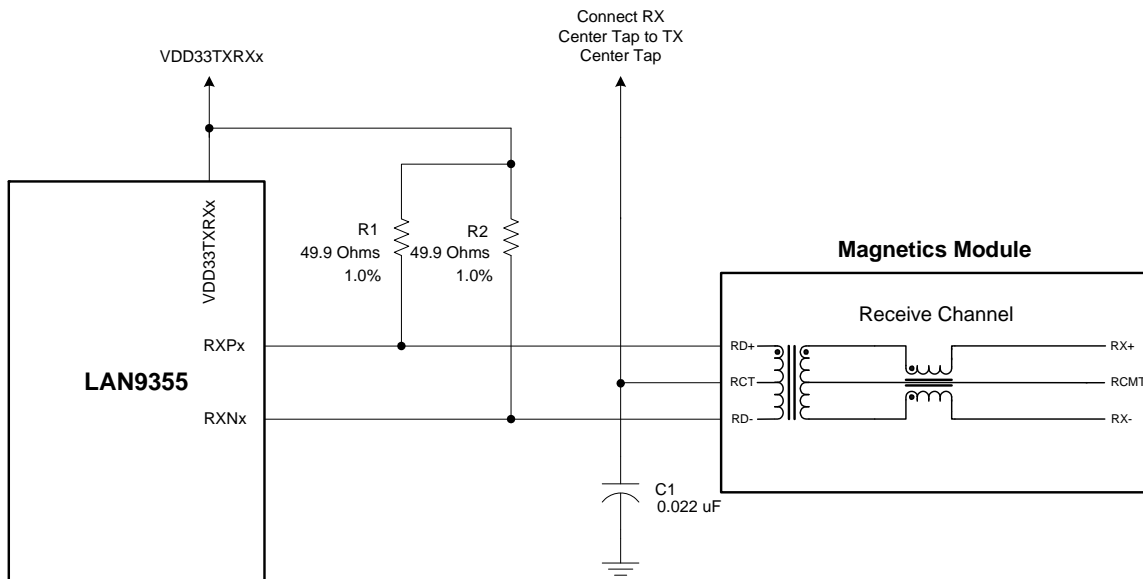

Figure 11 - Receive Channel Connections and Terminations
6. For Port A, Receive Channel connection and termination details, refer to Figure 11.
6. For Port B, Receive Channel connection and termination details, refer to Figure 11.